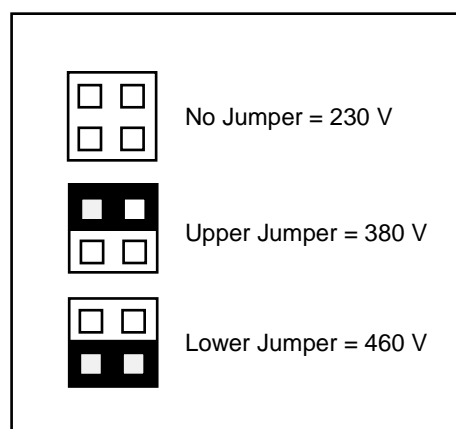

Figure 2-3. Voltage Jumpers
- 1 For the IT-X11A/4/460A transformer, the turns ratios (TR) is selectable by a switch on the transformer rear panel.
- 2 Power Supply Input voltage selection must be jumpered at E12 on the HF2 Power Supply PCB as shown in Figure 2-3. E12 is located at the center of the PCB left edge.